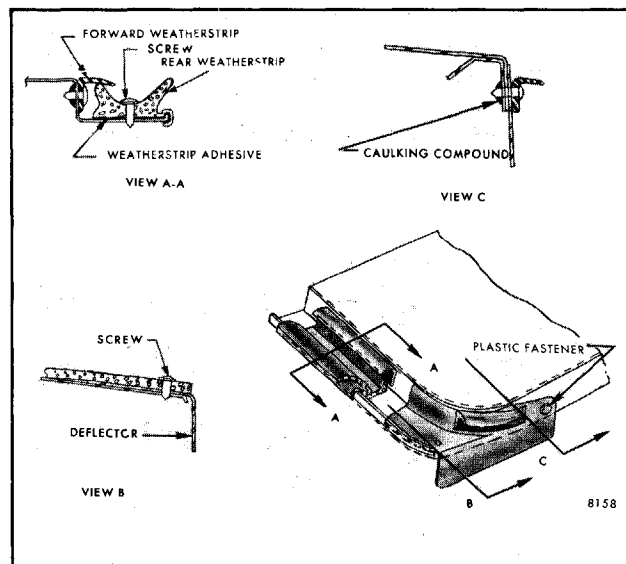

Fig. 8-68-Sun Roof Panel Weatherstrip
Two weatherstrips and deflectors are used at the rear of the sun roof sliding panel (Fig. 8-68). The deflectors are located at each rear corner of the sliding panel retained by black weatherstrip cement at rear and a plastic drive fastener forward. The forward weatherstrip is positioned on the vertical surface of the rear flange by attaching screws, and the other along the rear horizontal retained by cement and two screws positioned 1/4" from the outboard edge of the panel and engagement over the panel rear vertical flange and deflector.
6. Weatherstrip no. 1, position weatherstrip to panel and drive attaching screws and seal the screws with caulking compound or similar material as shown in Figure 8-68.